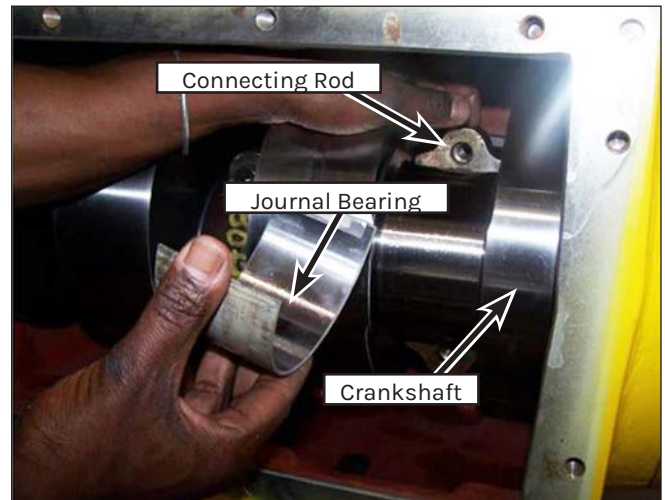

Figure 158: Inner Bearing Removal.
7. To access the inner journal bearing (Figure 158), push the connecting rod away from the crankshaft. Slide the bearing from the rod.